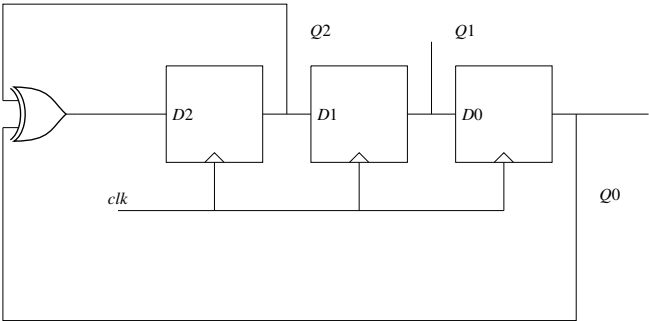

Fig. 5.3: Propagation Delay
2. The propagation delay of the exclusive-OR(XOR) gate in the circuit in Fig. 5.3 is 3 ns. The propagation delay of all the flip-flops is assumed to be zero. The Clock(clk) frequency provided to the circuit is 500 MHz. Starting from the initial value of the flip-flop outputs  $Q_2 Q_1 Q_0 =$